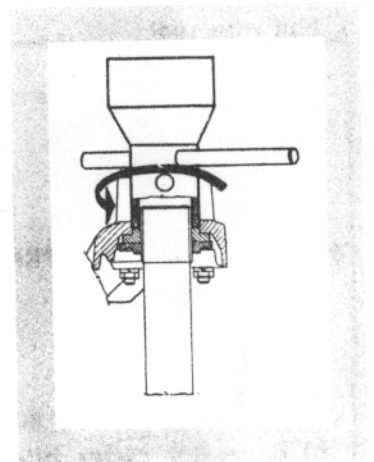

Fig. 39 – Tighting of steering head
- 3. Bearing nuts – fixture No. 20 (fig. 39)
- 4. Bearing nuts – fixture No. 20 (fig. 39)